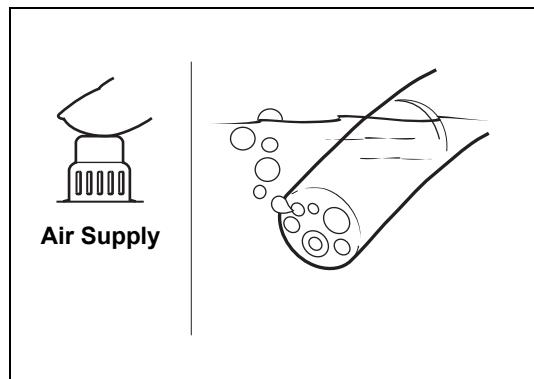

Figure 4.5
- Air/water is supplied through the endoscope. If you insert the distal end of the endoscope into water and gently cover the air hole on the air/water feeding valve, air will come out of the distal end of the endoscope. You can confirm the air supply by checking whether air bubbles are generated. (Refer to Figure 4.5.)